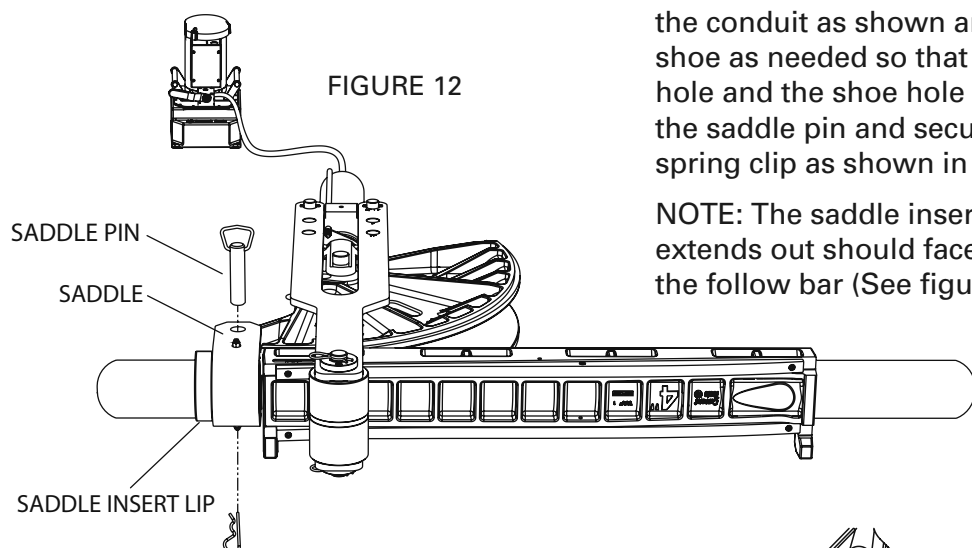

FIGURE 12
13. Place the correct size saddle around the conduit as shown and rotate the shoe as needed so that the saddle hole and the shoe hole align. Insert the saddle pin and secure with the spring clip as shown in Figure 12.